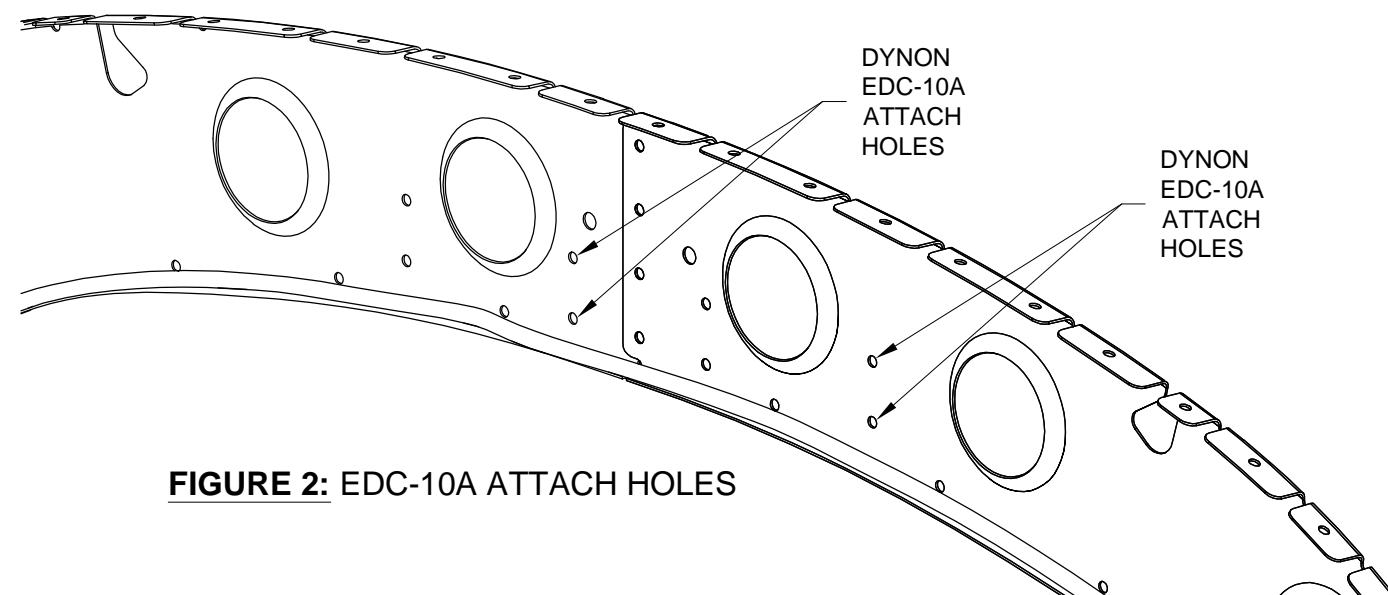
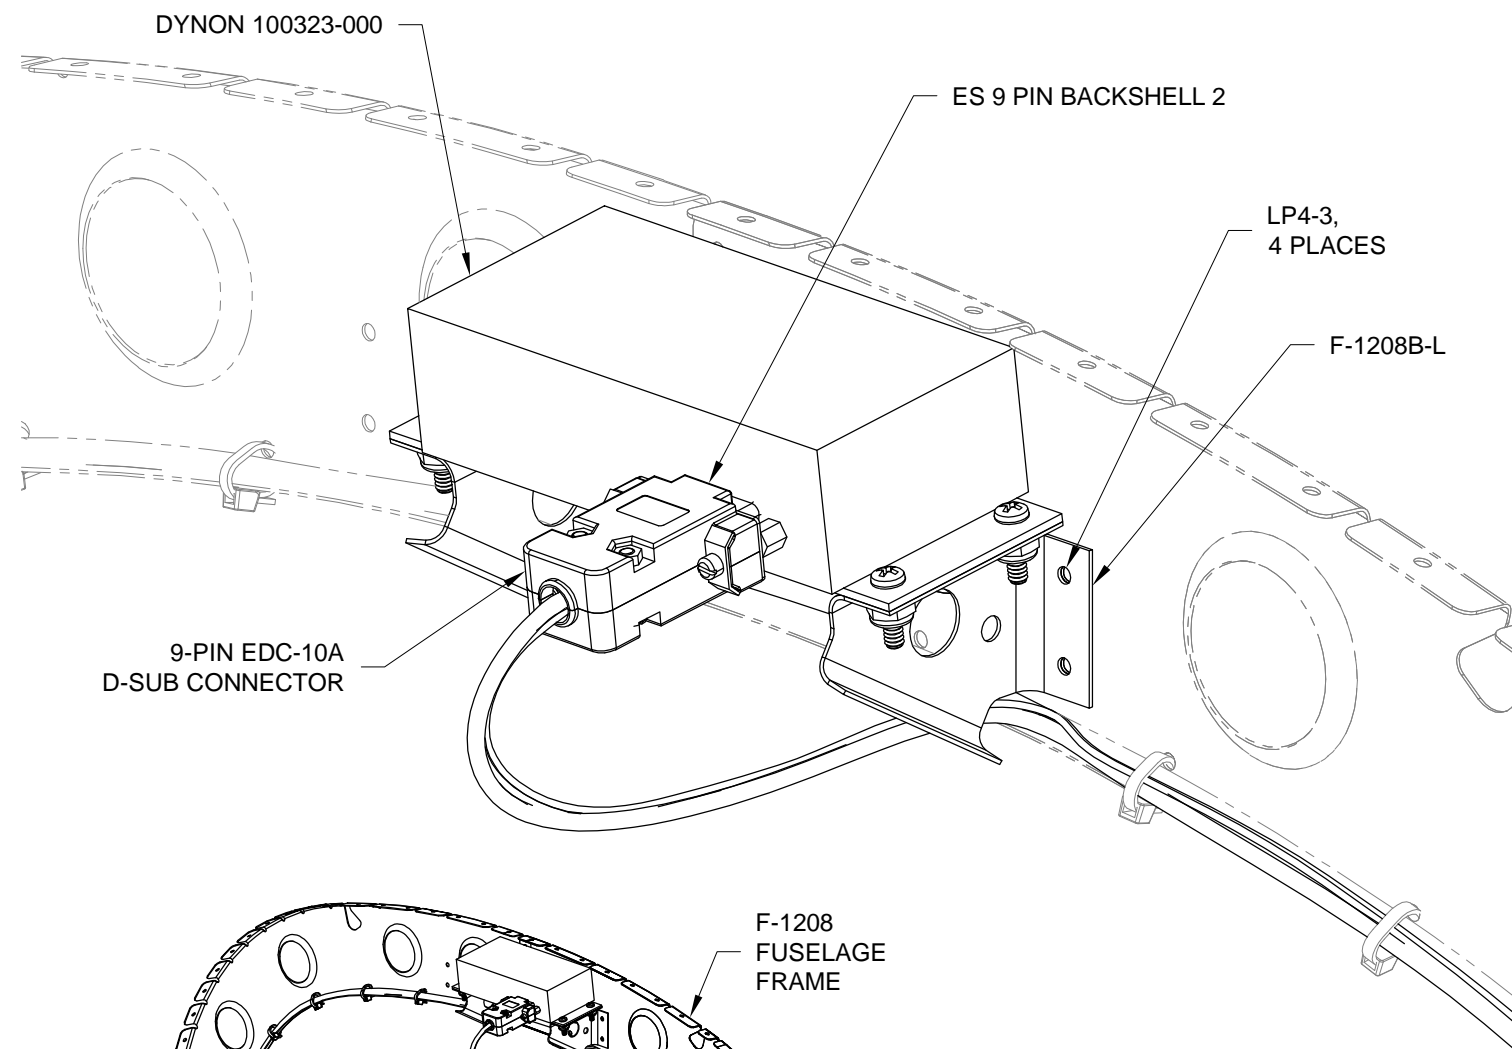

FIGURE 2: EDC-10A ATTACH HOLES
FIGURE 3: INSTALLING THE DYNON 100323-000
Step 3: Rivet the DYNON 100323-000 EDC-10A Magnetometer and F-1208B-L & -R Mag Bracket Assembly to the F-1208 Fuselage Frame using the hardware called out in Figure 3. See also Figure 2 for the correct attach location.
Step 5: Connect the 9-Pin EDC-10A D-Sub Connector to the DYNON 100323-000 EDC-10A Magnetometer as shown in Figure 3.